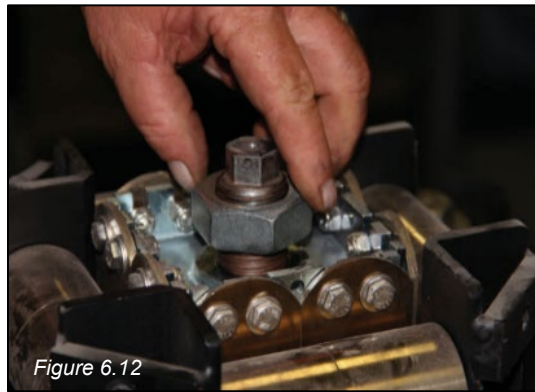

Figure 6.12
1. Thread the adjustment screw jam nut clockwise onto the top of the adjustment screw until it comes into contact with the spring block, locking the adjustment screw in a static position (*Figure 6.12, 6.13*). Once the jam nut is in this position, it should be torqued according to the following specified values based on the valve model: